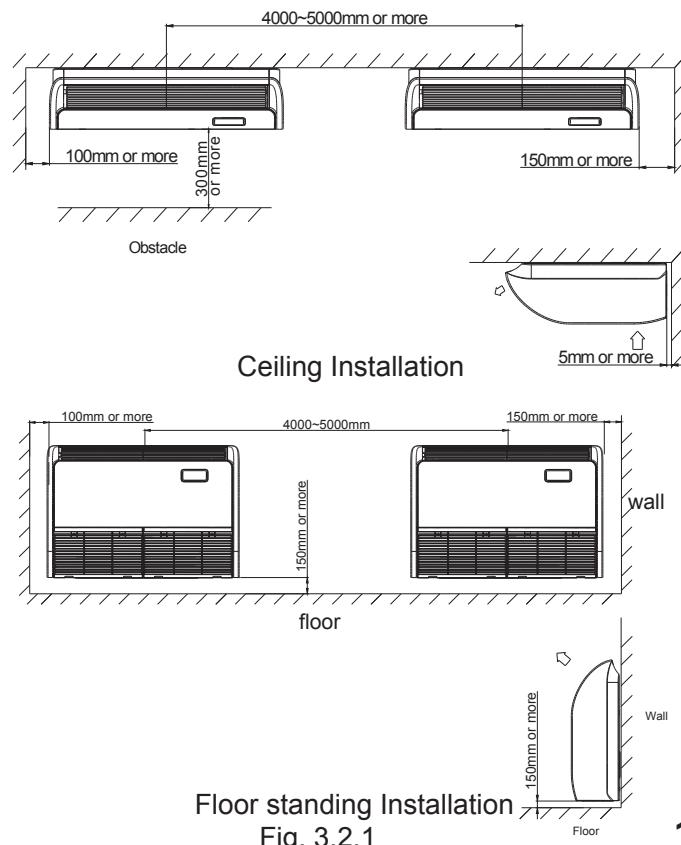

Fig. 3.2.1
- Sufficient clearance for maintenance and servicing is ensured.(See Fig.3.2.1 )